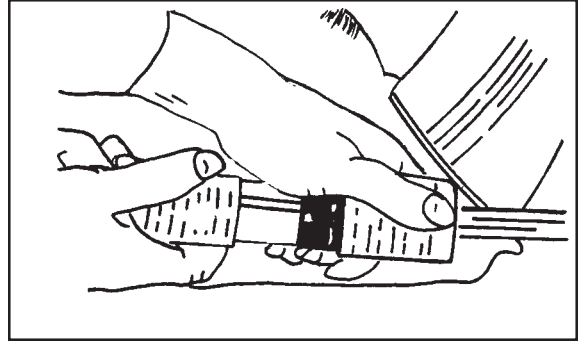

Figure 5
2. Make sure the control switch is set to "OFF". For the "OFF" position, the switch is actuated towards the operator. See the markings on the switch. Connect the supply cable to the motor electric cable. (Figure 5)